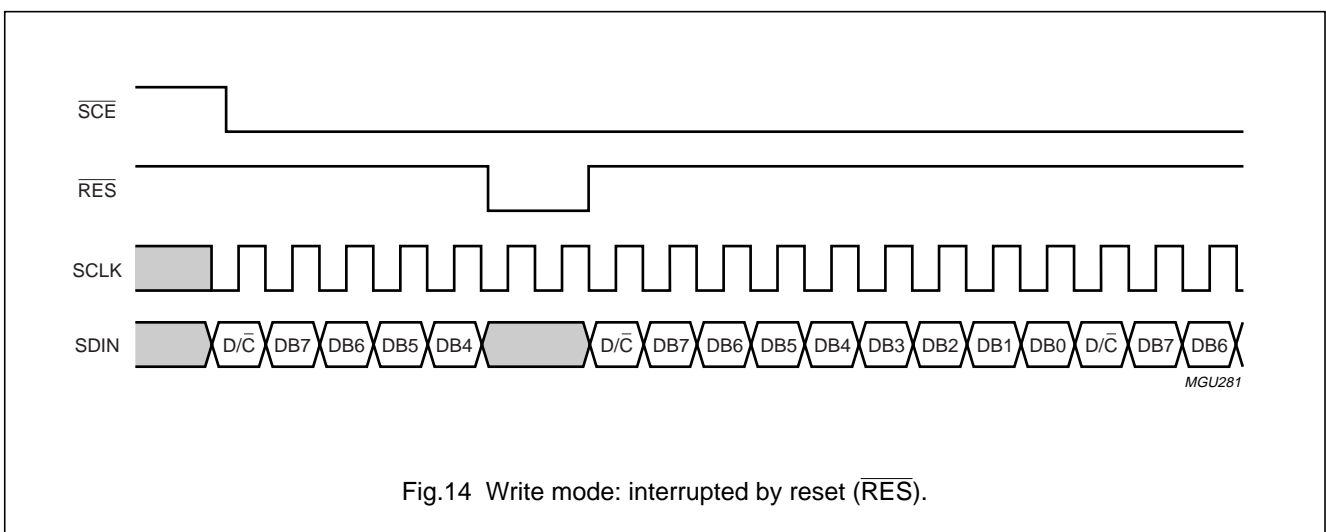

Fig.14 Write mode: interrupted by reset (\overline{RES}).
- A reset pulse with \overline{RES} interrupts the transmission. The data being written into the RAM may be corrupted. The registers are cleared. If \overline{SCE} is LOW after the rising edge of \overline{RES} , the serial interface is ready to receive the D/\overline{C} bit of a command or data byte (see Fig.14).